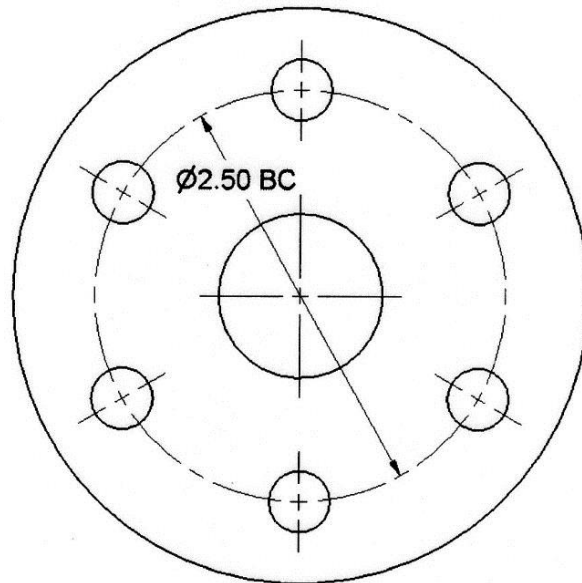

Figure 2. Holes Spaced Equally about a Center.
- h. Holes equally spaced about a common center are located by giving the center of the holes and diameter of the bolt circle (BC). See Figure 2.